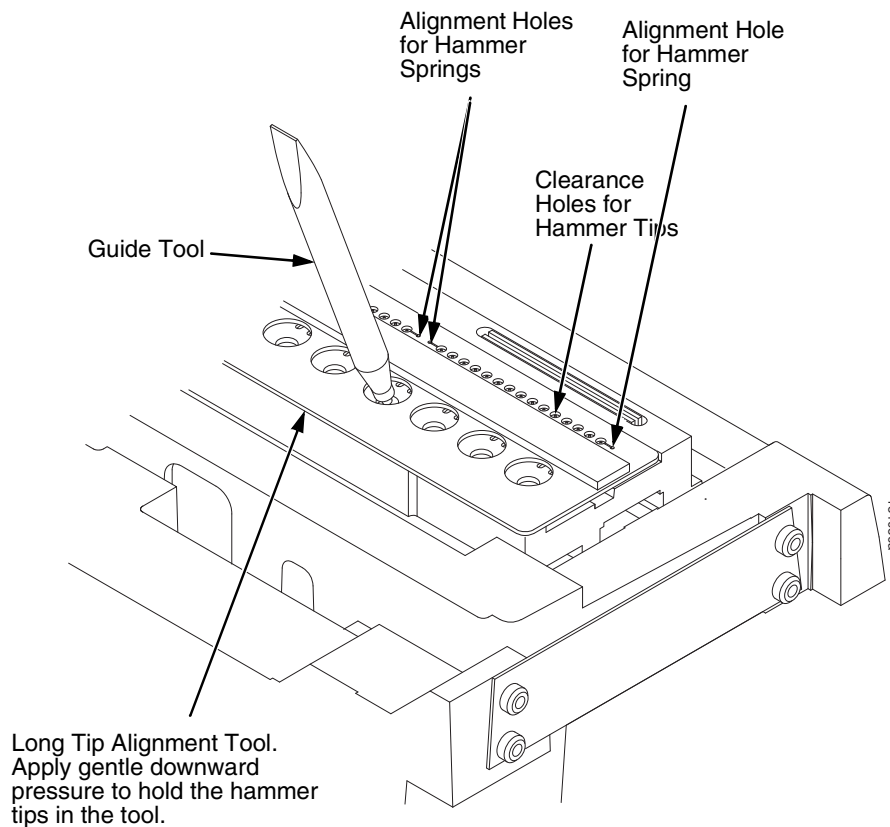

Figure 30. Using the guide tool to maneuver the hammer tips into the alignment tool holes.
5. Apply a gentle, continuous downward pressure to the alignment tool and gently swivel the guide tool in the hammer spring mounting holes to maneuver the hammer tips into the clearance and alignment holes in the alignment tool. You will feel and/or hear a small “click” when the hammer tips slip into the holes. (See Figure 30.)